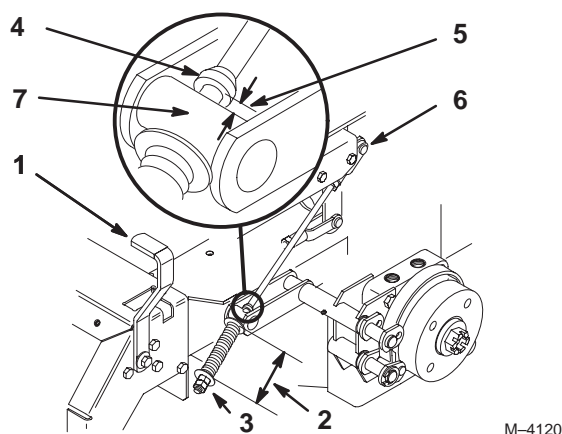

Figure 56
2. Measure the length of the spring. Measurement should be 2-3/4 inch (70 mm) between washers (Fig. 56).
3. If adjustment is necessary, loosen the jam nut below the spring and tighten the nut directly below the yoke (Fig. 56). Turn the nut until the correct measurement is obtained. Tighten the two nuts together and repeat on opposite side of unit.
6. Measure the distance between the trunnion roller and the collar on brake rod. Measurement should be 3/16 - 1/4 inch (5-7 mm) (Fig. 56).
7. If adjustment is necessary, loosen the jam nut directly below the yoke. Turn the bottom adjusting nuts until the correct measurement is obtained (Fig. 56). Tighten jam nut at yoke